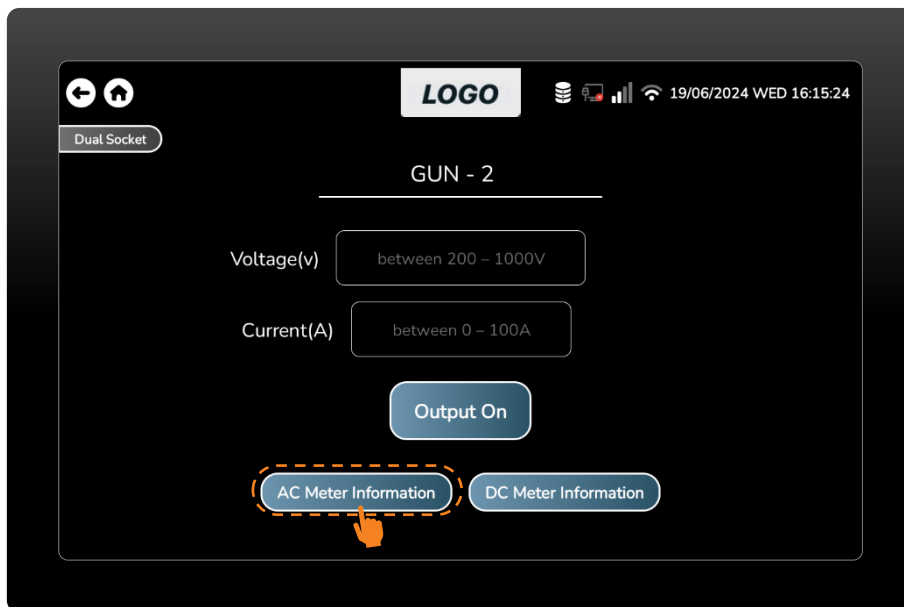

Figure 30 Press the AC Meter Information Button.
- Pressing the AC Meter Information button will open the AC information screen. (Figure 30)